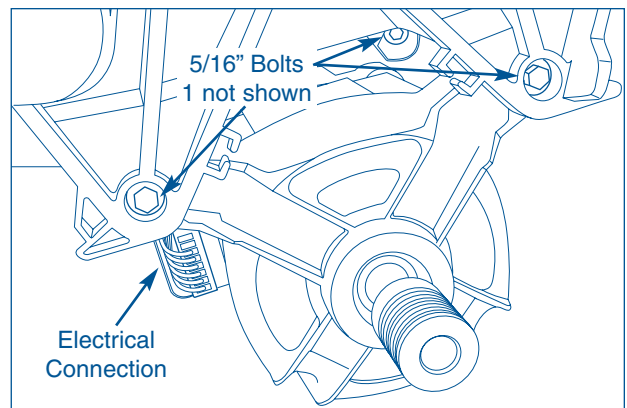

Figure 4-50.
4. Using a 5/16" socket remove the four bolts, two in the front and two in the rear, that secure the motor to the outer tub. (See Figure 4-50)